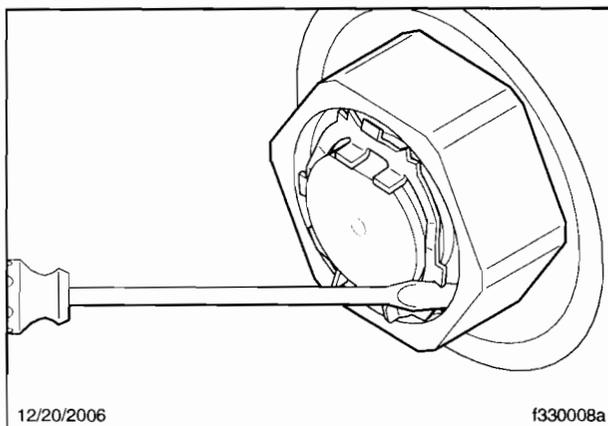

Fig. 5, Compressing the Lockring
- 30.5 Insert a screwdriver, or similar tool, in the undercut groove of the nut, between the keeper arms. See **Fig. 5**. Using the tool, compress the lockring to lock in place.